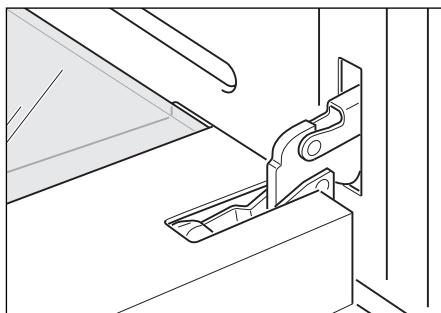

Fig. 40a
- Fully open the oven door (Fig. 40a).
- 1 Make sure the door is locked open (see Figs 40a - 40c).